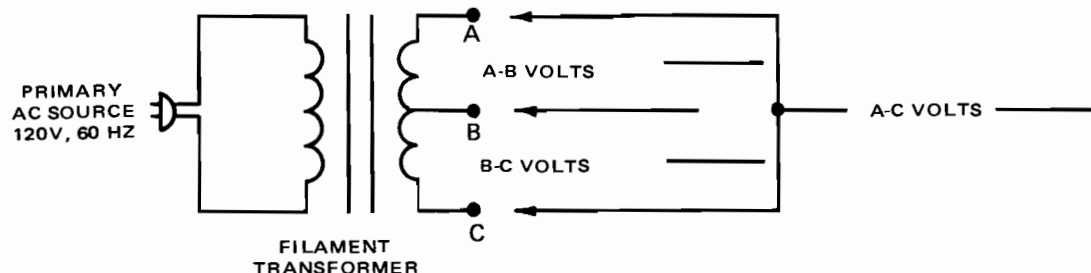

Fig. 9-5-1
2. Turn on power supply or plug transformer into primary ac power source. Measure output voltage across test points indicated in Fig. 9-5-1. Record each value.
3. Center tapped transformer in Fig. 9-5-1 is similar to transformer that supplies electrical power to your home, only on a smaller scale. Terminal B is representative of neutral connection or common ground. Terminals A and C are representative of hot leg of source which, typically, is protected by a fuse or circuit breaker.